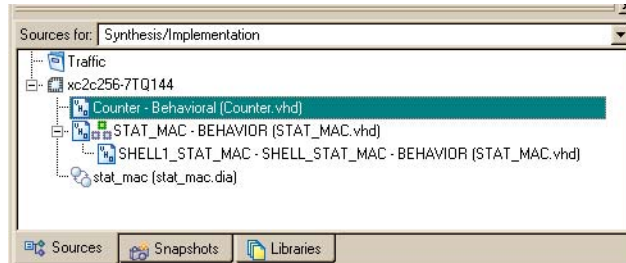

Figure 4-43: Sources in Project Window
This action will take you back to the stage in the flow with only the “counter.vhd” and the “stat_mac.vhd” files. The Sources window module view should look like Figure 4-43 below.
3. In the **Sources** window, highlight “counter.vhd.” If you do not see “counter.vhd” check to see that the Synthesis/Implementation view and the Source tab have been selected as shown in Figure 4-43.